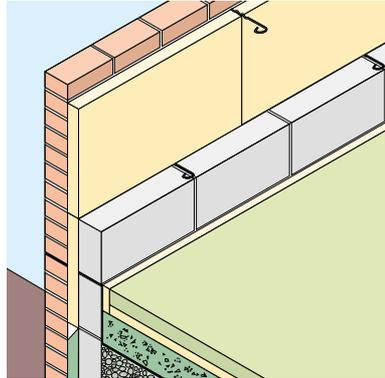

Figure 5
- 3 Build up a complete section of the leading leaf to one course above the next row of wall ties spaced at max. 900 mm horizontally (Figure 5, overleaf). Ensure that all mortar joints are properly filled, particularly the perpends.